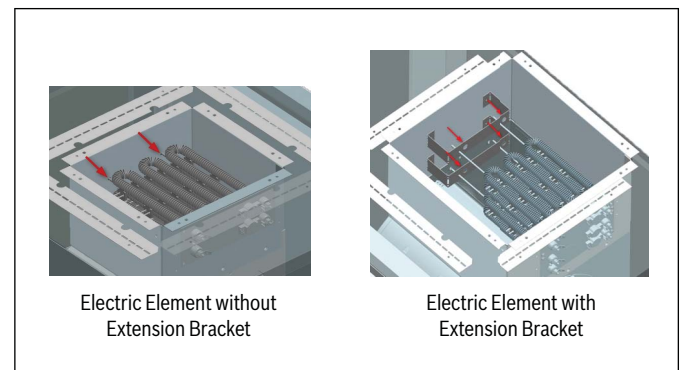

Figure 23 Electric Element Installed with/without Extension Bracket
5. Start with the bottom insert for 5kW and 10kW kits, and both for the 15 kW and 20 kW. Slide in the heating element rods into the holes on either the extension bracket or heater collar (figure 23).